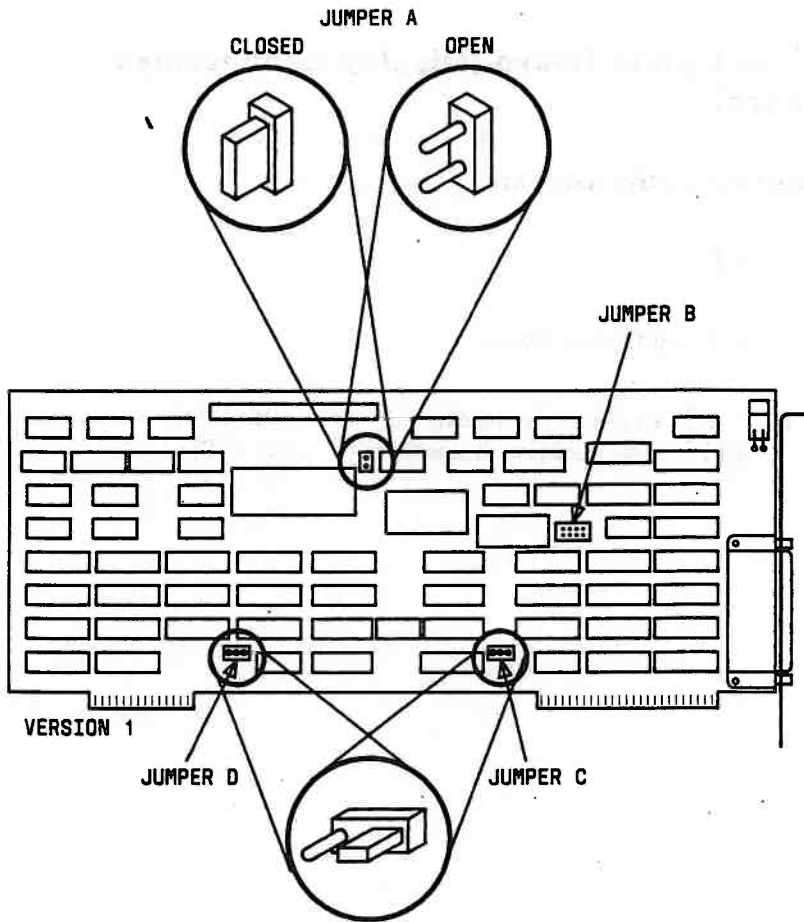

Figure 5-42. Jumper Locations for Version One of the DEB
1. Verify that jumper location A has a jumper block installed and jumper location B does not (Figures 5-42 and 5-43).